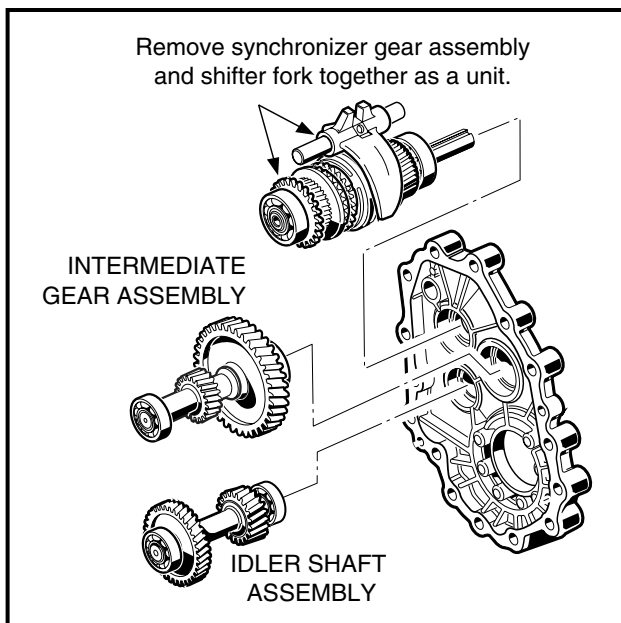

Figure 6-8 Remove Intermediate Gear
- Continue to rock and loosen the remaining gear assemblies until the intermediate gear assembly can be removed from the case. Then remove the idler shaft assembly (**Figure 6-8, Page 6-5**).
10. Remove the synchronizer gear assembly and shifter fork assembly as a unit (**Figure 6-8, Page 6-5**).